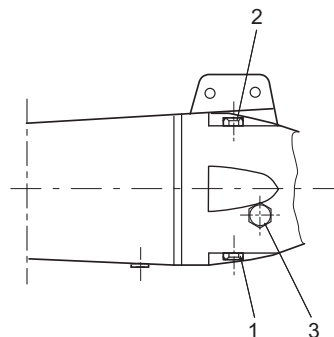

Fig. 17 Position of oil drain and oil filling bolts
1. Remove the bolt (2). See fig. 17.
2. Loosen and remove the oil drain bolt (1), and allow the oil to drain from the chamber into a glass. Leave the oil in the glass for approx. 10 minutes and check if it contains water. If the oil contains water, the shaft seal must be replaced.